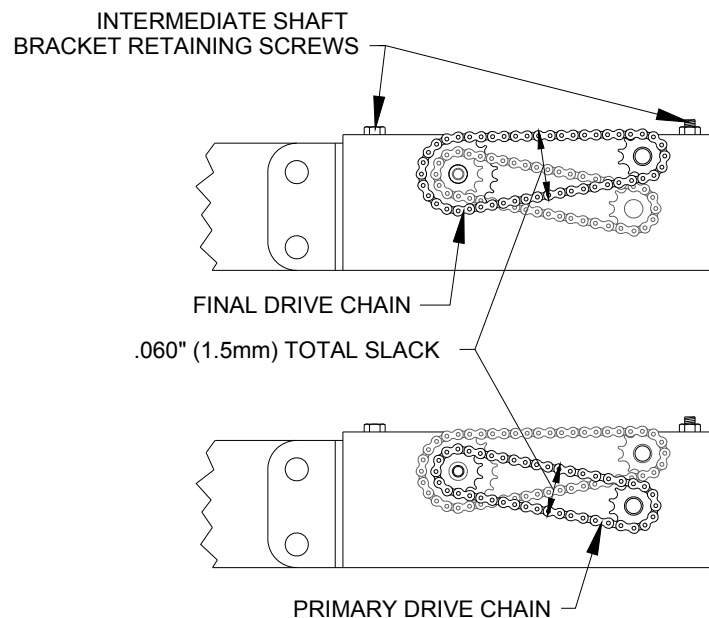

FIGURE 4-38: DRIVE CHAIN SLACK ADJUSTMENT
- 1) Refer to **Figure 4-38**. Verify the two screws fastening the intermediate shaft mounting bracket to carriage are loose.
- 6) Refer to **Figure 4-38**. Install primary drive chain around sprocket on gearbox output shaft, and around clutch sprocket. Install master link.
- 2) Refer to **Figure 4-38**. Loosen screws fastening intermediate shaft bracket to carriage. The front screw is accessible from top of lift, and rear screw is accessible through service hatch (use an open end wrench above intermediate shaft mounting bracket to hold nut).
- 6) Refer to **Figure 4-38**. Adjust chain tension to achieve .030" (.8mm) slack on lower span.
- 15) Refer to **Figure 4-38**. Adjust chain tension to achieve .030" (.8mm) slack on upper span.
- 4) Refer to **Figure 4-38**. Remove screws fastening intermediate shaft bracket to carriage.
- 5) Refer to **Figure 4-38**. Engage final drive chain sprocket (mounted on intermediate shaft) with torque wrench.